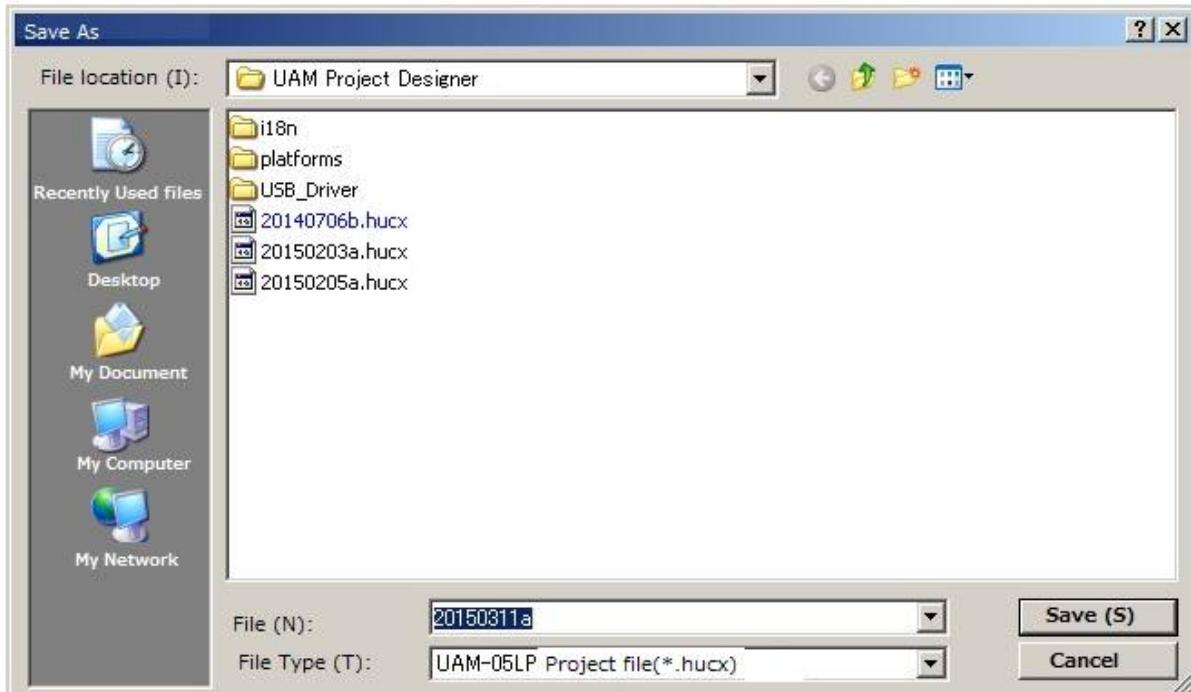

Figure 7-51 Save project file
- Enter a file name and click Save button. Change the location of the file if necessary. (Figure 7-51)